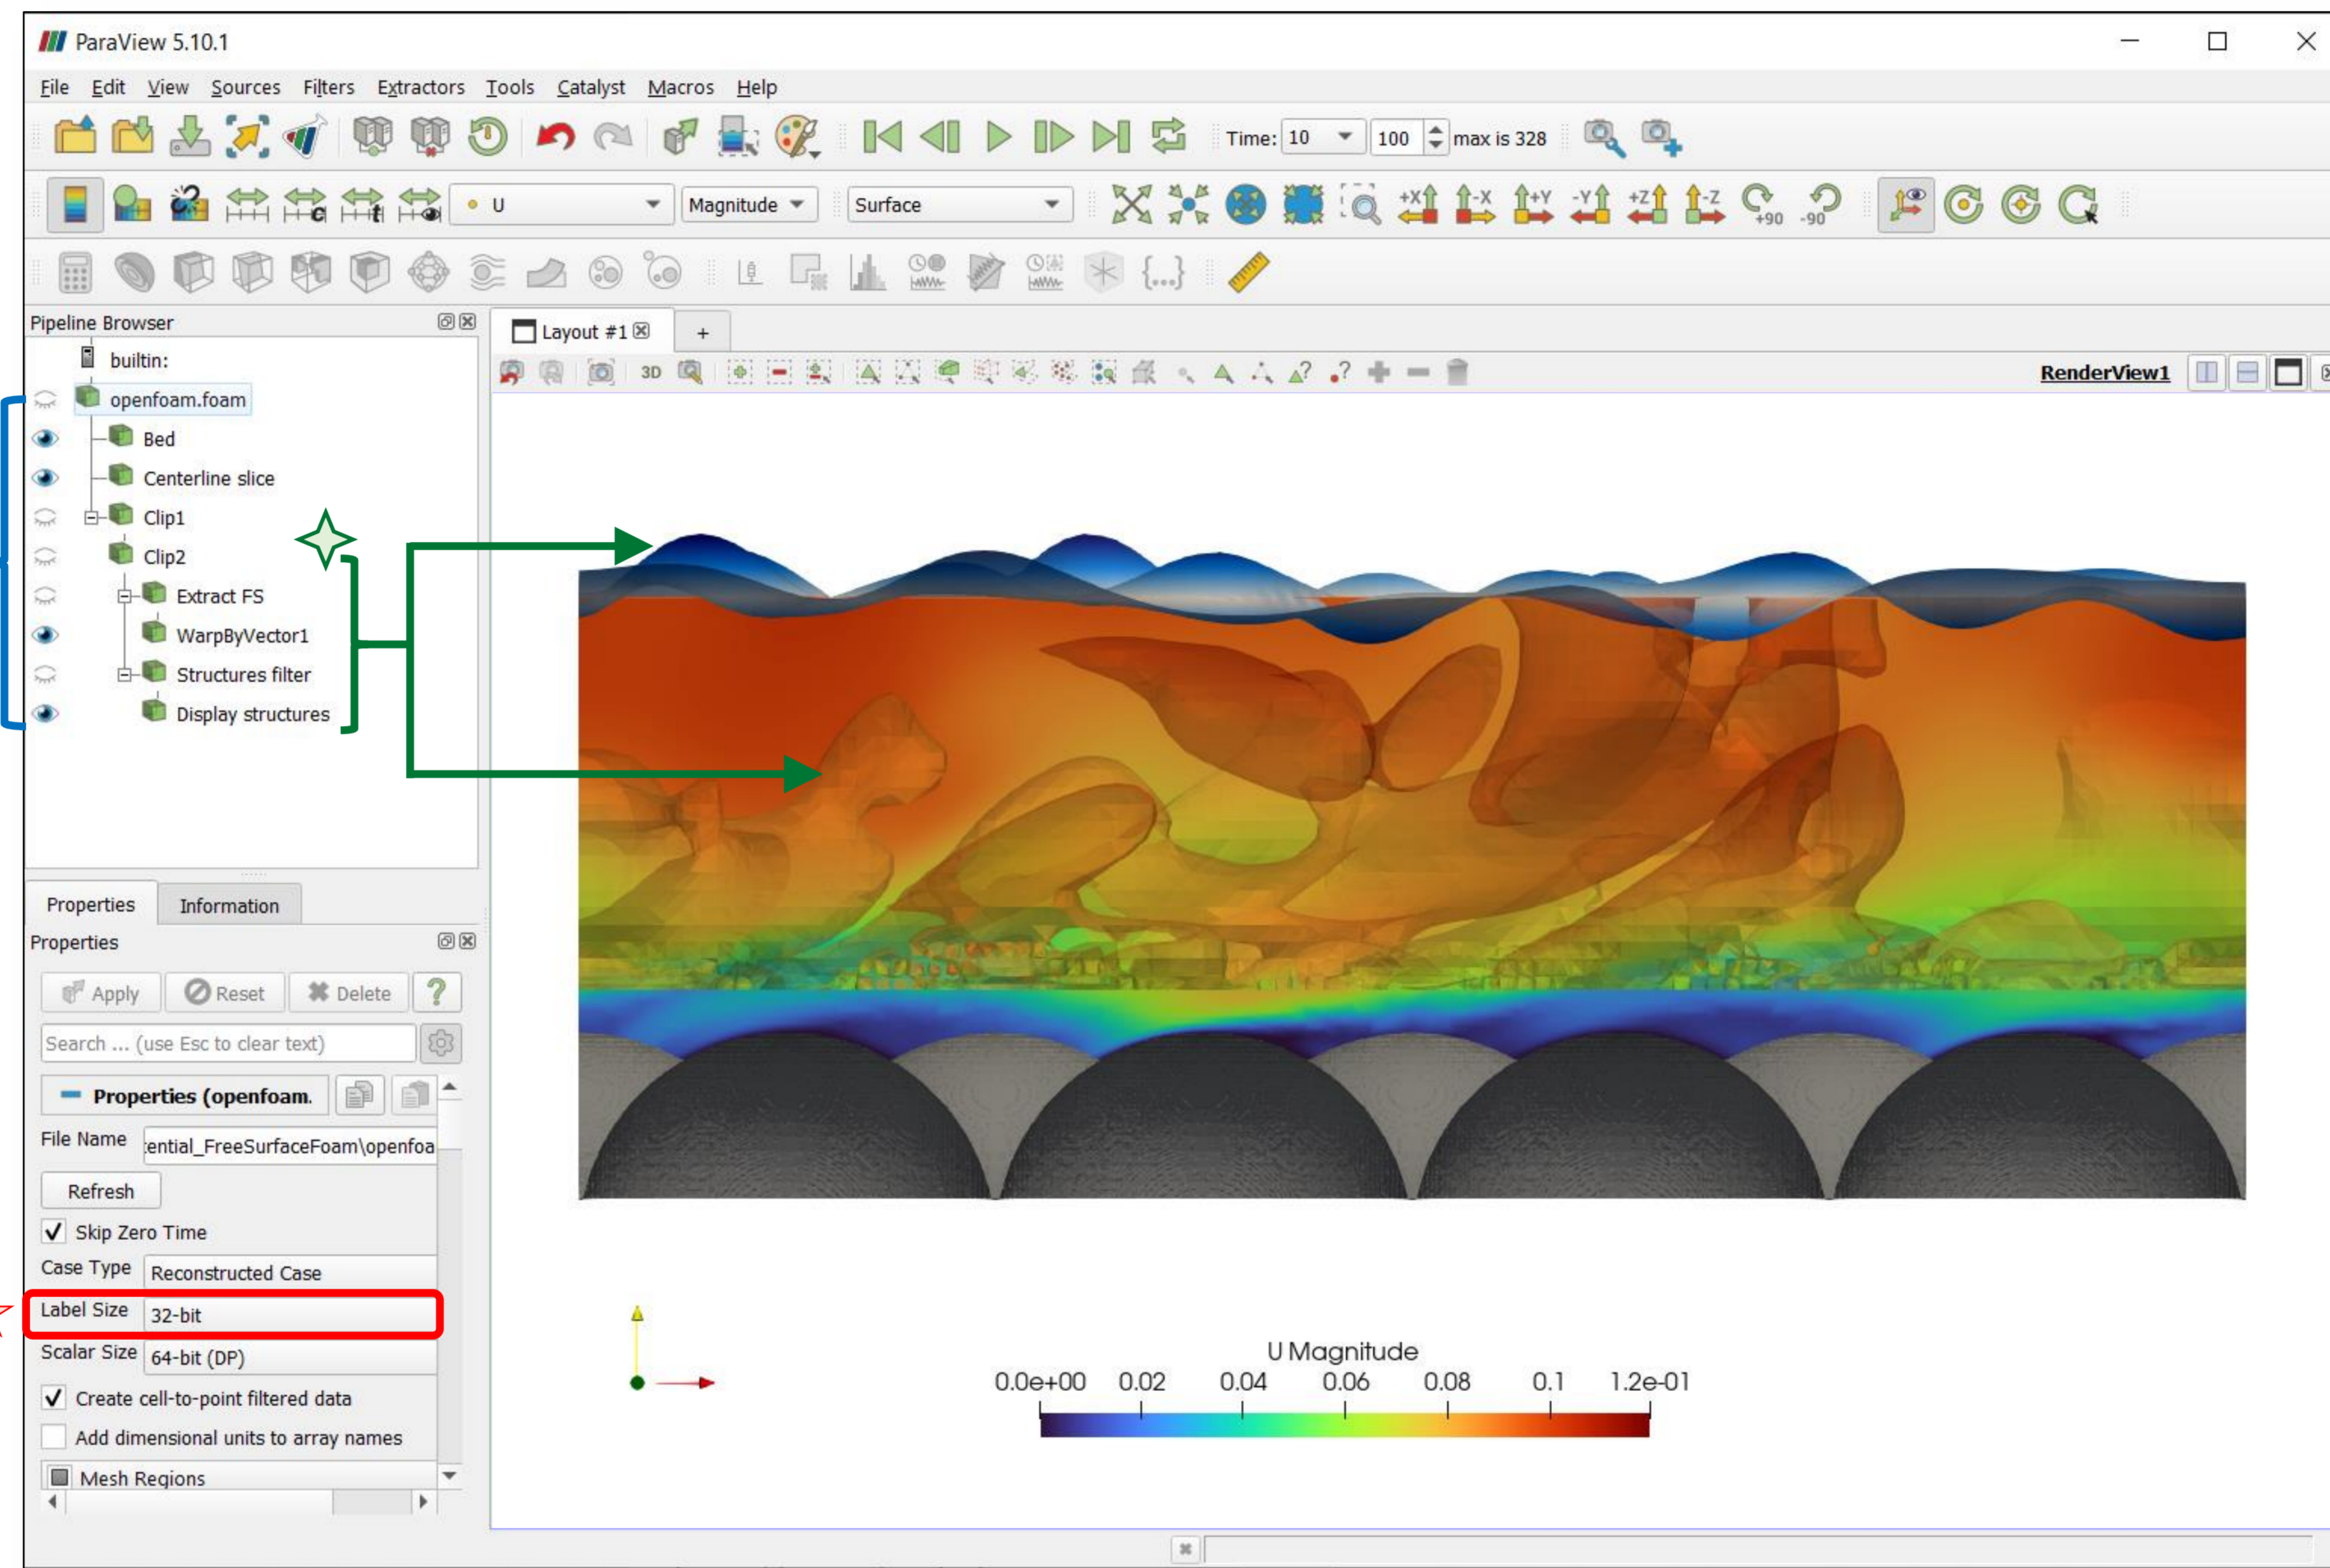

Figure 2. ParaView visualization of drainage open channel flow simulation over a bed with spherical roughness.
- In Figure 2, the “Gradient of Unstructured Data” filter calculates the vorticity showing how turbulent vortices move within the flow.